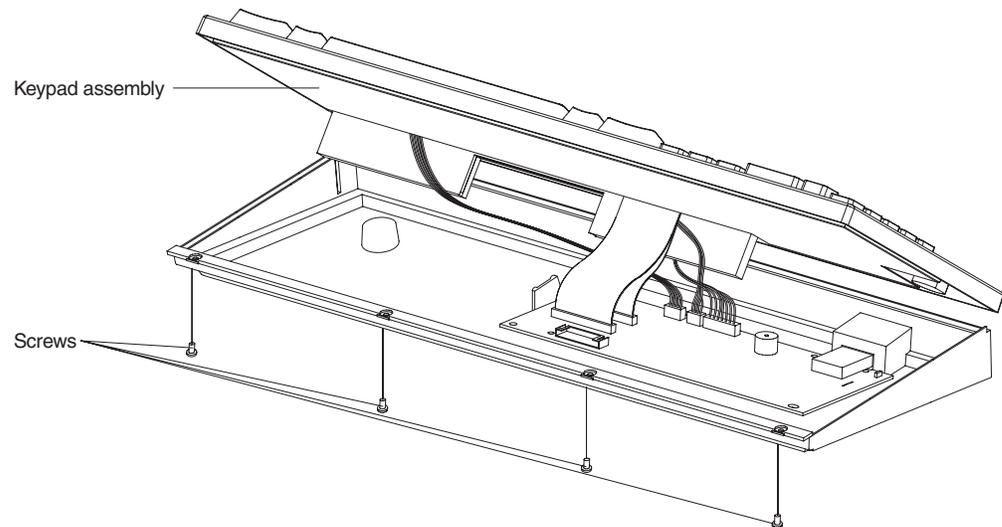

Figure 50. Removing the keypad assembly
2. Remove the screws (3 or 4, depending on the type of keyboard) from the underside of the front edge of the keyboard (see Figure 50).